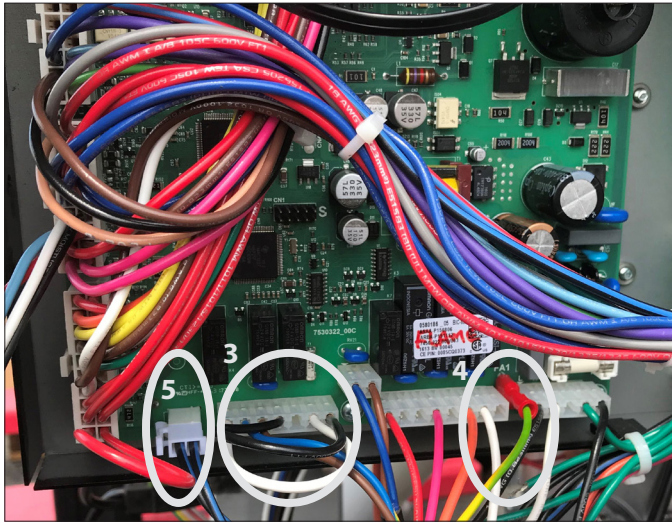

Figure 14 - Factory Wired Electronics Assembly
- Unplug the 7-pin cable from X-9 (3) and disconnect the ground tab (4) from the green extension wire on the electronics assembly. See Figures 14 and 15.